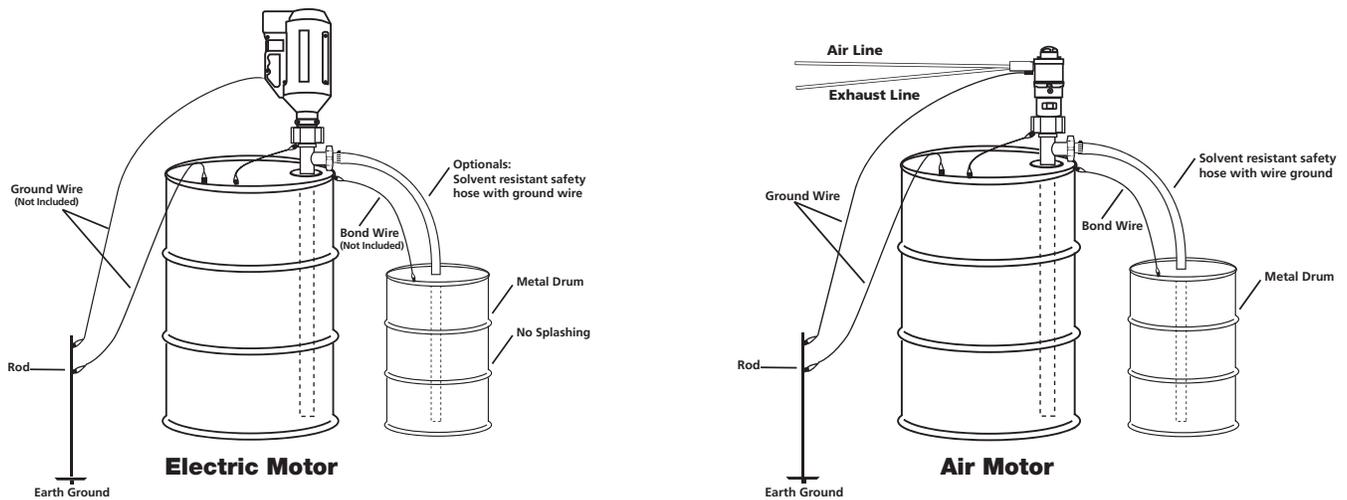

Figure 6 - Static Protection Kit
- Install the Pump and Static Protection Kit as described in Figure 6 on page 12.
**▲ CAUTION** *Check electrical continuity of all components before pumping. All should be one (1) ohm or less.*